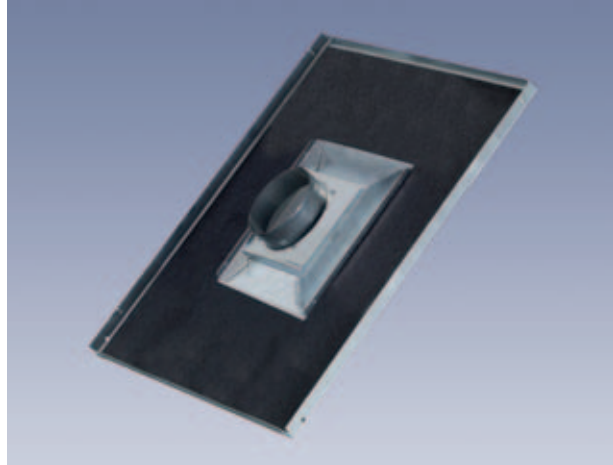

Figure 8: Opticlean for connection to a flexible duct or 90° elbow
- a flexible duct or a 90° elbow (Figure 8) or